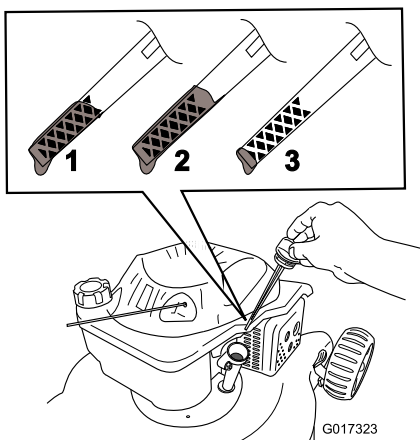

Figure 10
2. Remove the dipstick (Figure 10).
3. **Slowly** pour oil into the oil fill tube until the oil level reaches the **Full** mark on the dipstick (Figure 10). **Do not overfill.** Max. fill: 19 oz (0.55 L), type: SAE 30 or SAE 10W-30 detergent oil with an API service classification of SF, SG, SH, SJ, SL, or higher.
1. Remove the dipstick, wipe it clean, and fully install the dipstick (Figure 10).
2. Remove the dipstick and check the oil level (Figure 10). If the oil level is below the **Add** mark on the dipstick, **slowly** pour oil into the oil fill tube to raise the oil level to the **Full** mark on the dipstick. **Do not overfill.** (Max. fill: 19 oz (0.55 L), type: SAE 30 or SAE 10W-30 detergent oil with an API service classification of SF, SG, SH, SJ, SL, or higher.)